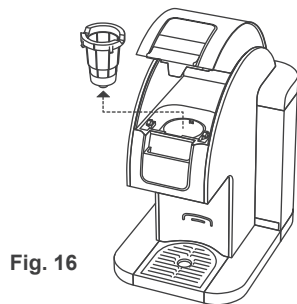

Fig. 16
1. Open the Cover, and remove the Red Cup Holder from the brewer by pulling on it. (Fig. 16)